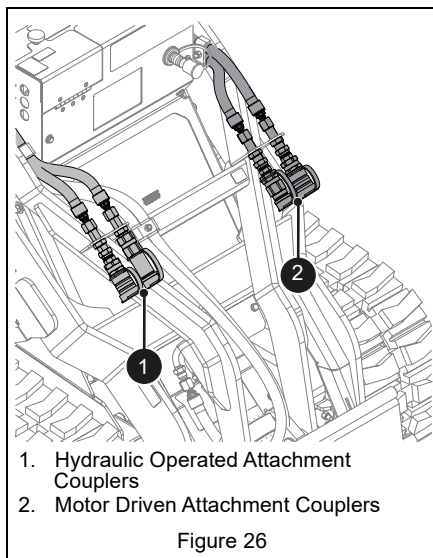

Figure 26
8. Clean quick couplers and connect to attachment hydraulic hoses (if required). See Figure 26.